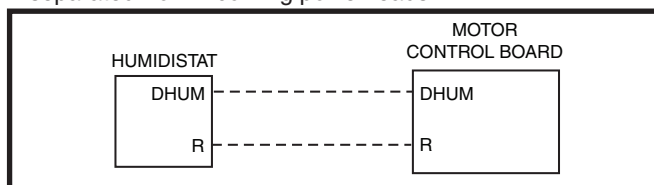

Figure 6. DHUM Wiring Configuration
1. If the room thermostat incorporates a humidity sensor and **DHUM** output, connect the **DHUM** on the thermostat to the **D** terminal on the motor control board. See Figure 6 \(page 9\).